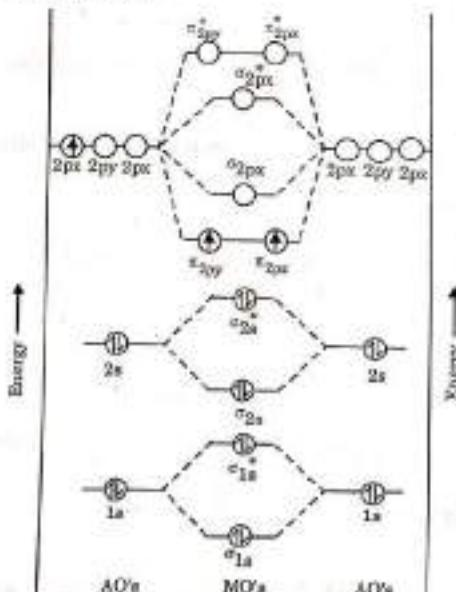

Fig. 1.5.1. Molecular orbital energy level diagram for  $\text{B}_2$  molecule.
1. For the formation of  $\text{B}_2$  molecule, two B atoms are required. Its electronic configuration is:  $1s^2 2s^2 2p^1$ . The filled molecular orbitals in  $\text{B}_2$  molecule are shown in Fig. 1.5.1.